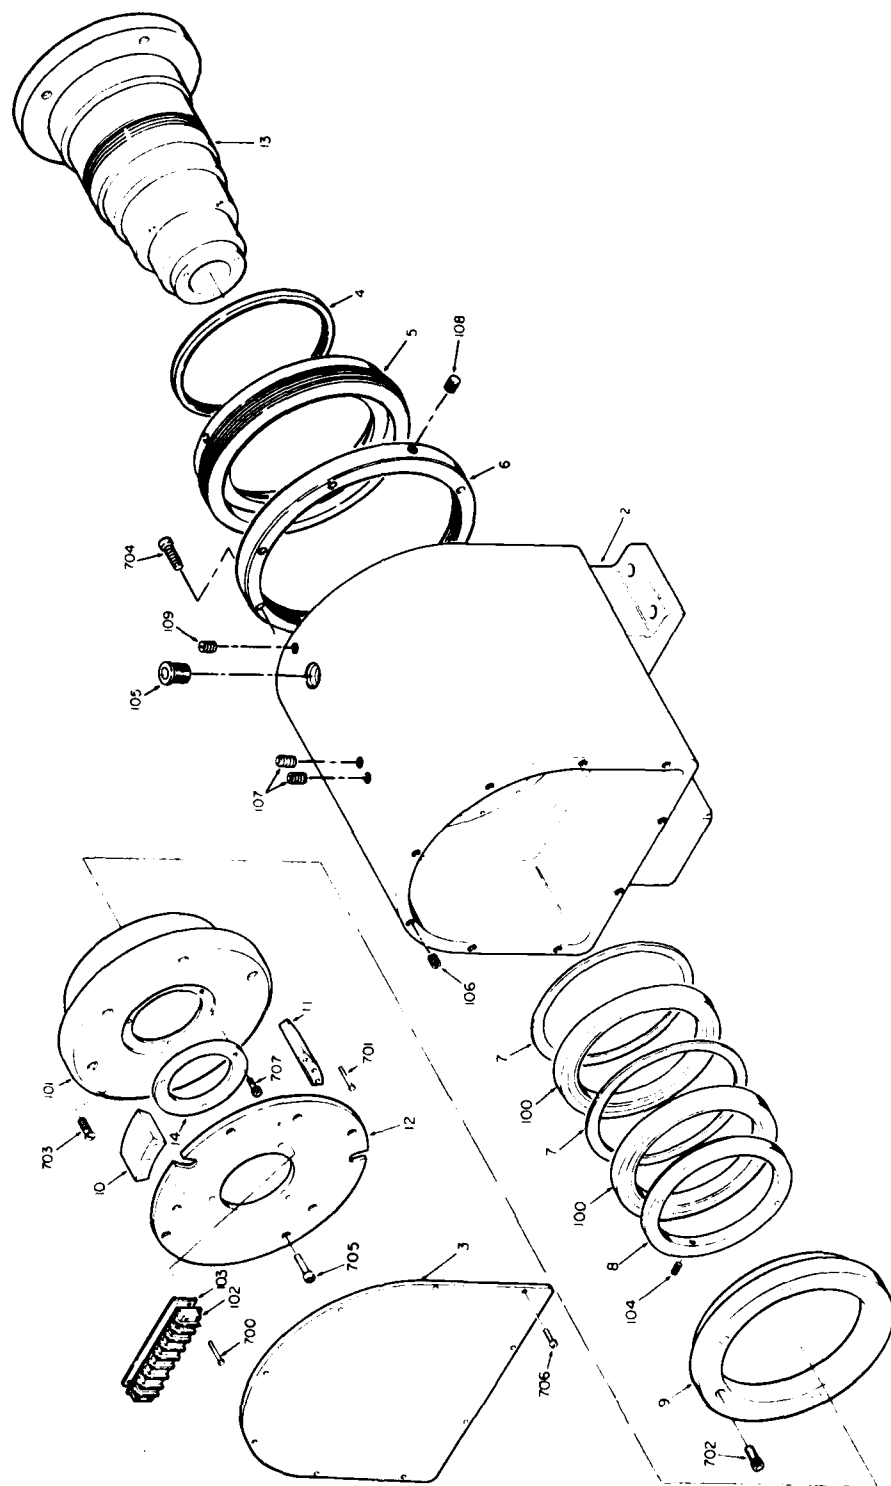

Figure 5.8. Readout Side (Caging Side) Pillow Block
- p. Loosen setscrew (114) and using a spanner wrench, turn counterclockwise to remove bearing retainer (5), bearing (100), spacer (4), and bearing (100).
- a. Remove nine screws (706, Figure 5.8), cover (3) and gasket.
- c. Disconnect motor wires connected to TB7 (102).
- d. Remove four screws (705) and mounting plate (12).
- e. Remove four screws (707) and motor retainer (14).
- f. Remove brush blocks and brushes (1 and 2, Figure 5.6) from motor (101, Figure 5.8).
- h. Remove 6 screws (703, Figure 5.8) that fasten motor to pillow block.
- k. Using Figure 5.8 as a reference, remove searchlight, gimbal and shaft from positioner as in steps 5.16.1.f through 5.16.1.n. Do not remove caging disk (7, Figure 5.5) from shaft except for replacement.
- l. Remove four screws (704), seal retainer (5) and seal (4).
- j. Line up reference marks made on hub assemblies (107 and 108) in step 5.16.1.c. Decrease backlash in each component separately at the high spots. Tighten circular mounting plates (13) when the gears are lined up.
- k. Install cover (16), gasket and nine screws (709).
- a. Install adapter (6, Figure 5.8), six screws (704) and setscrew (108).
- b. Install seal (4), seal retainer (5) and four screws (703).
- c. Install spacer (7), bearing (100), spacer (7), bearing (100) and bearing retainer (8). Using a spanner wrench, turn clockwise until retainer is tight. Tighten setscrew (104).
- d. Install bearing retainer (9) and four screws (702).
- e. Using Figure 5.8 as a reference, install searchlight, gimbal and shaft in positioner as in steps 5.17.1.c through 5.17.1.h.
- f. Install motor (101) on shaft (13). Install six screws (703) that fasten motor to pillow block. If keeper was installed, remove it at this time.
- i. Install motor retainer (14, Figure 5.8) and four screws (707).
- j. Pass motor wires through a convenient slot in the component mounting plate and connect wires to correct terminals of TB7 (102).
- k. Install component mounting plate (12) and four screws (705).
- c. Install cover and nine screws (3 and 706, Figure 5.8) on readout side pillow block.